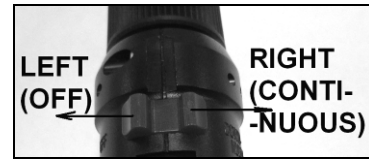

Fig2
safety lock button. Slide the **continuous flame switch** to right (Fig2) for a constant flame.
● EXTINGUISHING (Fig2)
Disassemble the **soldering tip** and **hot blow head** with **metal sleeve** by rotating counterclockwise. Install the **metal sleeve** back to the unit. Operation will be the same as above for the soldering iron. (Fig2)
- 2.) Before refilling make sure that the **continuous flame Switch** at left (OFF) side. (Fig2)